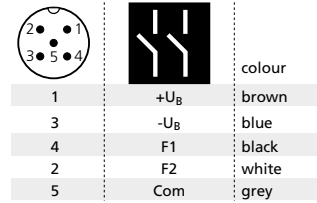

Fig. 1: Pin assignment with view onto sensor plug and colour coding of the microsonic connection cables
- Connect a connection cable to the M12 device plug, see fig. 1.